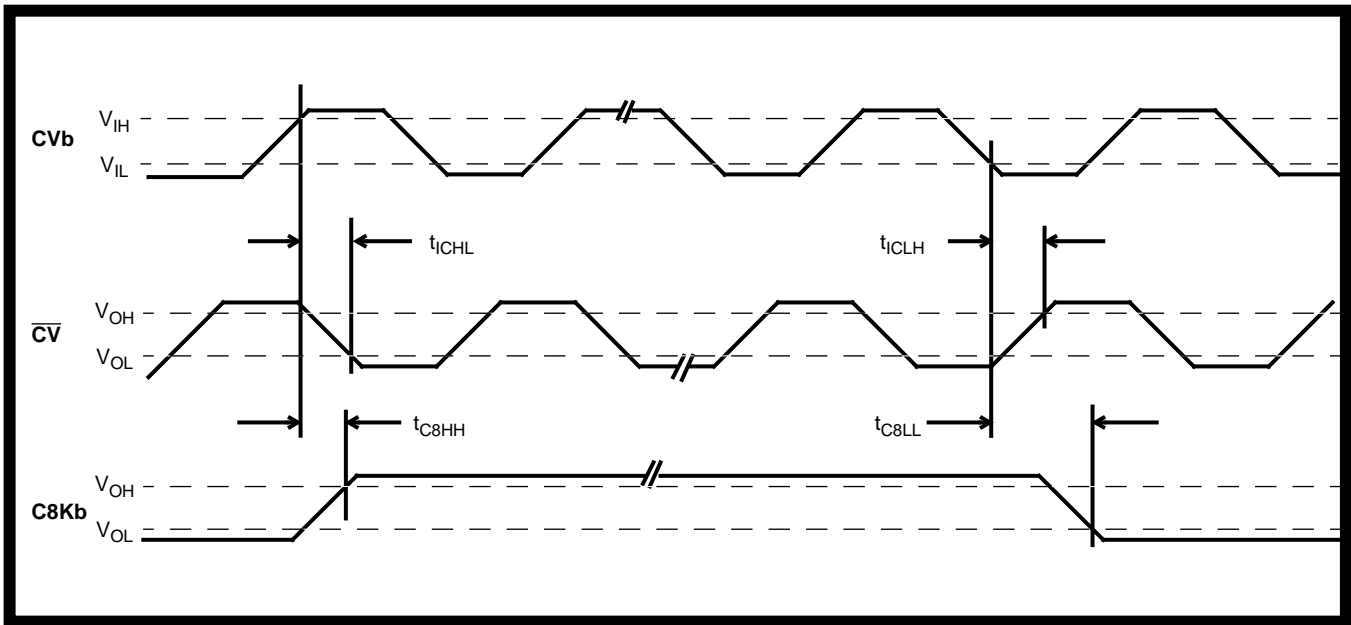

Figure 10 - DPLL #1 in DIVIDE Mode
**AC Electrical Characteristics†** - Voltages are with respect to ground ( $V_{SS}$ ) unless otherwise stated. (Ref. Figure 10)